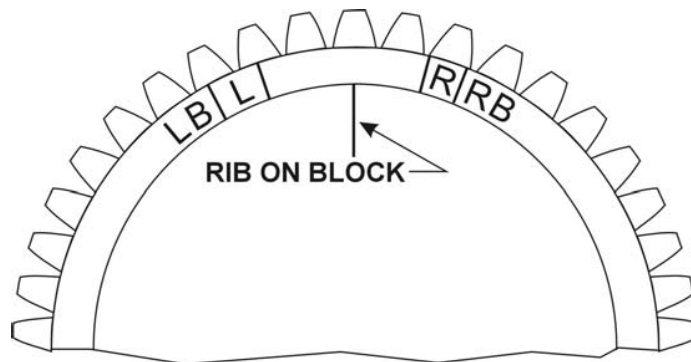

Figure 5-2. Timing Marks – 6 Cyl. –1200 Series
- (1) Remove a spark plug from No. 1 cylinder and place a thumb over the spark plug hole. Rotate the crankshaft in direction of normal rotation until the compression stroke is reached, this is indicated by a positive pressure inside the cylinder tending to push the thumb off the spark plug hole. Continue rotating the crankshaft until the advance timing mark on the front face of the starter ring gear is in alignment with the small hole located at the two o'clock position on the front face of the starter housing. (Ring gear may be marked at 20° and 25°. Consult specifications for correct timing mark for your installation.) At this point, the engine is ready for assembly of the magneto.
- (2) *Single Magneto* – Remove the inspection plugs from both magnetos and turn the drive shaft in direction of normal rotation until (-1200 series) the applicable timing mark on the distributor gear is approximately aligned with the mark on the distributor block. See Figure 5-2. Being sure the gear does not move from this position, install gaskets and magnetos to the engine. Note that an adapter is used with all magnetos. Secure with (clamps on –1200 series) washers and nuts; tighten only finger tight.
- (3) Using a battery powered timing light, attach the positive lead to a suitable terminal connected to the switch terminal of the magneto and the negative lead to any unpainted portion of the engine. Rotate the magneto in its mounting flange to a point where the light comes on, then slowly turn it in the opposite direction until the light goes out. Bring the magneto back slowly until the light just comes on. Repeat this with the second magneto.
- (4) Back off the crankshaft a few degrees, the timing lights should go out. Bring the crankshaft slowly back in direction of normal rotation until the timing mark and the hole in the starter housing are in alignment. At this point, both lights should go on simultaneously. Tighten nuts to specified torque.
- (5) *Dual Magnetos* – Place the engine in the No. 1 advance firing position as directed in paragraph 1, b, (1).
- (6) Install the magneto-to-engine gasket on the magneto flange.
- (7) To remove engine-to-magneto drive gear train backlash by turning engine magneto drive as far as possible in direction opposite to normal rotation and then return in the direction of normal rotation to timing mark on starter support.
- (8) Remove the timing window plug from the most convenient side of the magneto housing and the plug from the rotor viewing location in the center of the housing.
- (9) Turn the rotating magnet drive shaft in the normal direction of magneto rotation until the painted tooth of the large distributor gear is centered in the timing hole.
- (10) Observe that at this time the built in pointer just ahead of the rotor viewing window aligns with the R or L mark on the rotor depending on whether the magneto is of right or left hand rotation as specified on the magneto nameplate.